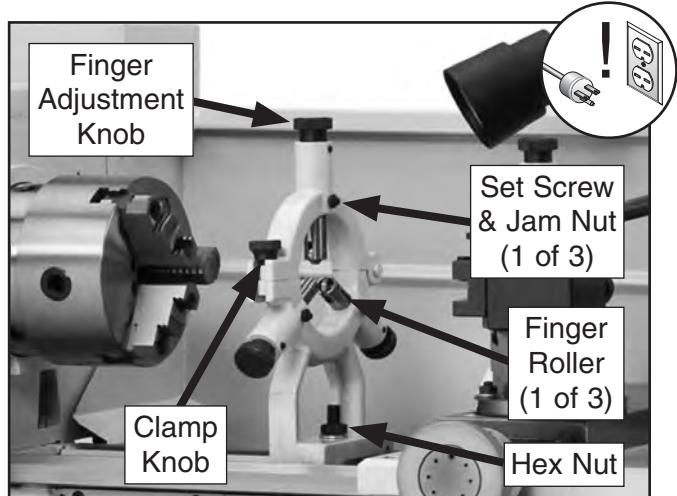

Figure 50. Steady rest components.
Familiarize yourself with the steady-rest components shown in **Figure 50** to better understand the controls.
3. Position steady rest with base clamp where required to properly support workpiece, then tighten hex nut shown in **Figure 50** to secure it in place.